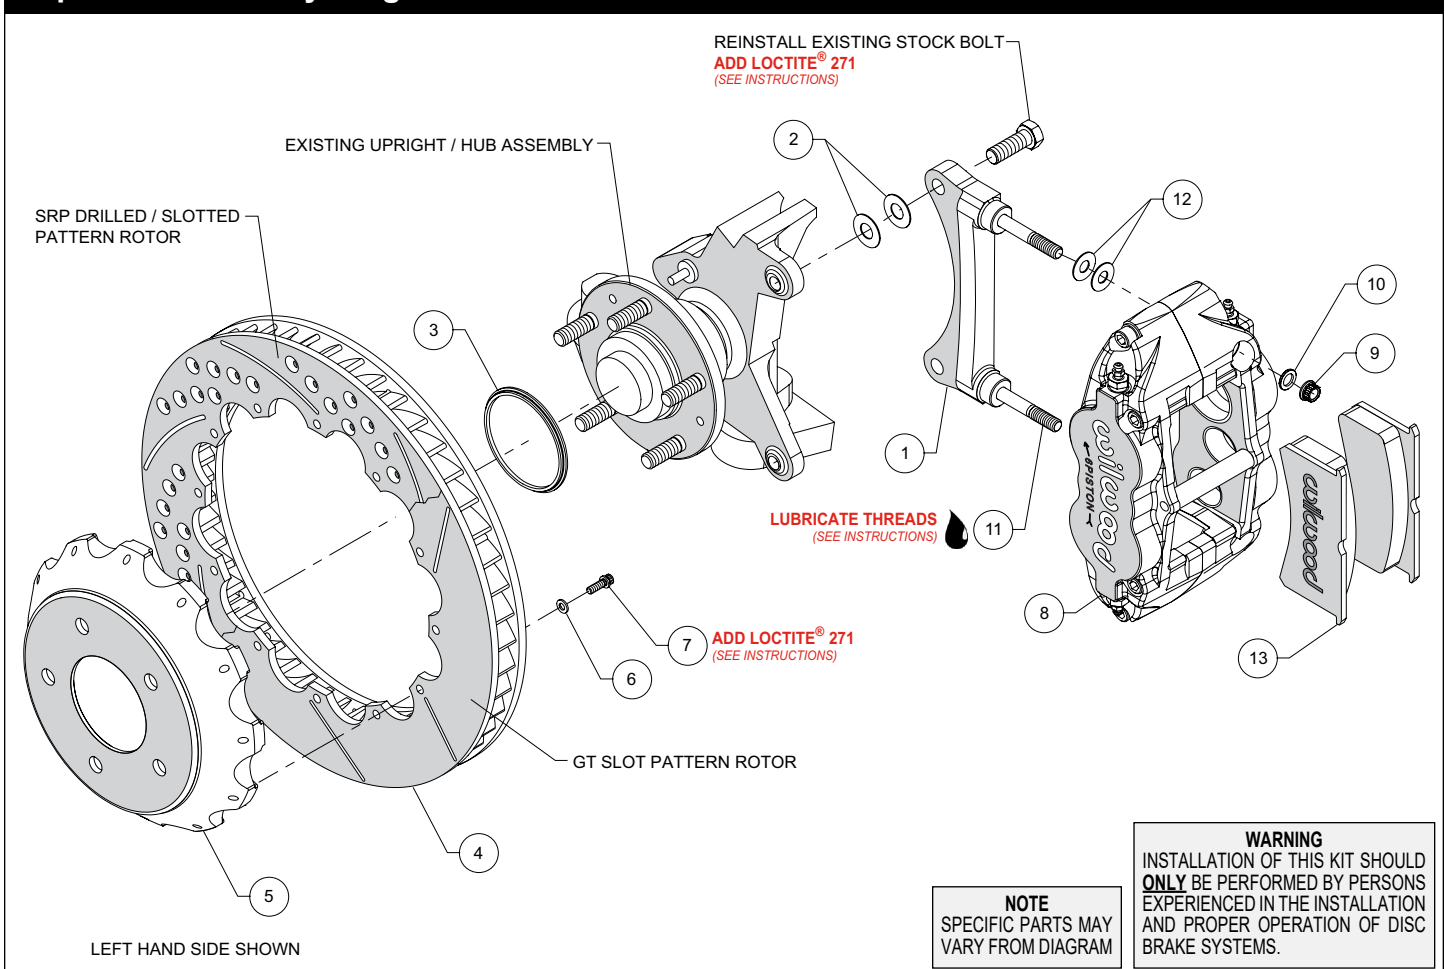
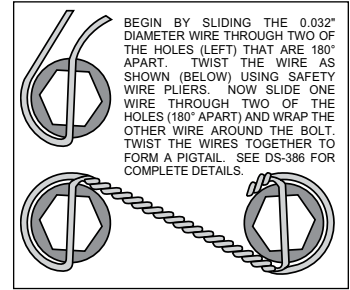

Figure 1. Typical Installation Configuration
Figure 3. Safety Wire Diagram
**NOTE:** Numbers in parenthesis refer to the parts list and Figure 1 on the preceding pages.
- The caliper mount bracket (1) should initially be installed with clean, dry threads on the mounting bolts. Orient the bracket as shown in Figure 1, and install using saved Original Equipment Manufacturers (OEM) mounting bolts and shim washers (2). Initially place two shims (2) on each bolt between the bracket and upright, Figure 1. Temporarily tighten the mounting bolts. **NOTE:** The bracket must fit squarely against the mount bosses on the upright. Inspect for interference from casting irregularities, machining ridges, burrs, etc. Later, after the caliper alignment has been checked, the mount bolts will be secured using red *Loctite*® 271.
- Orient the rotor (4) and the hat (5) as shown in Figure 1 and Photo 1. Attach rotor to hat using bolts (7) and washers (6). Apply red *Loctite*® 271 to the bolt threads and torque to 155 in-lb using a criss-cross pattern. For an added measure of security, the bolts may be safety wired using standard 0.032 inch diameter stainless steel safety wire as shown in Figure 3. Please refer to Wilwood's data sheet DS-386 (available at [www.wilwood.com/Pdf/DataSheets/ds386.pdf](http://www.wilwood.com/Pdf/DataSheets/ds386.pdf)) for complete safety wire installation instructions.
- Slide the rotor registration adapter (3) onto the axle register on the axle hub with the smaller O.D. facing outward, Photo 2. Slide the hat/rotor assembly onto the axle hub. **NOTE:** The hat must fit flush against the axle hub flange or excessive rotor run out may result. Install three lug nuts (finger tight) to keep the hat/rotor assembly in place while continuing with the installation.
- NOTE:** This kit contains distinct right and left hand calipers that must be mounted in a specific direction, as described below. Lubricate the caliper mounting studs (11) with lightweight oil. Initially place two .035" thick shims (12) on each stud as shown in Figure 1 and Photo 3. With the bleed screws pointing up, mount the caliper (8) onto the bracket (1) using lock nuts (9) and washers (10), Figure 1 and Photo 4. Ensure that the caliper is mounted so that the largest pistons are at the rotor exit end of the caliper, in relation to the direction of rotor rotation. Temporarily tighten the lock nuts and view the rotor through the top opening of the caliper. The rotor should be centered in the caliper, Photo 5. If not, adjust by adding or subtracting shims (2) between the bracket and the upright. Always use the same amount of shims on each of the two mounting bolts. Once the caliper alignment is correct, remove the bracket mounting bolts one at a time, apply red *Loctite*® 271 to the threads, and torque to manufacturer's specifications.
- Remove the caliper center bridge pad retainer bolt, nut, and tube from the caliper. Insert the brake pads (13) into the caliper (8), with the friction material facing the rotor, as shown in Photo 6. Check that the top of the brake pad is flush with the outside diameter of the rotor, Photo 7. If not, adjust by adding or subtracting shims (12) between the caliper and the bracket. After the caliper pad height is set, reinstall the center bridge pad retainer tube, bolt,